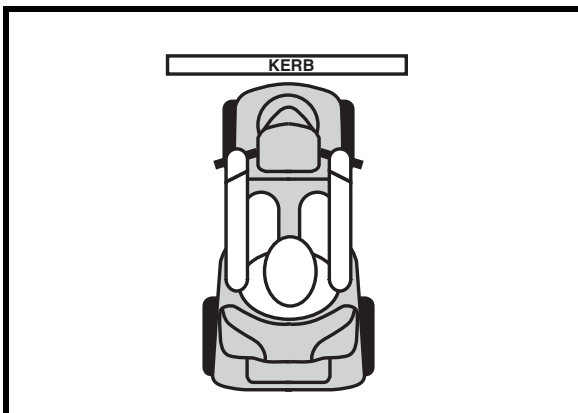

Figure 3. Correct Kerb Approach
1. Approach the kerb or obstacle slowly, and make sure the scooter is traveling perpendicular to the obstacle. See figure 3.
WARNING! Be sure your scooter is traveling perpendicular to any kerb you may be required to ascend or descend. See figures 3 and 4.